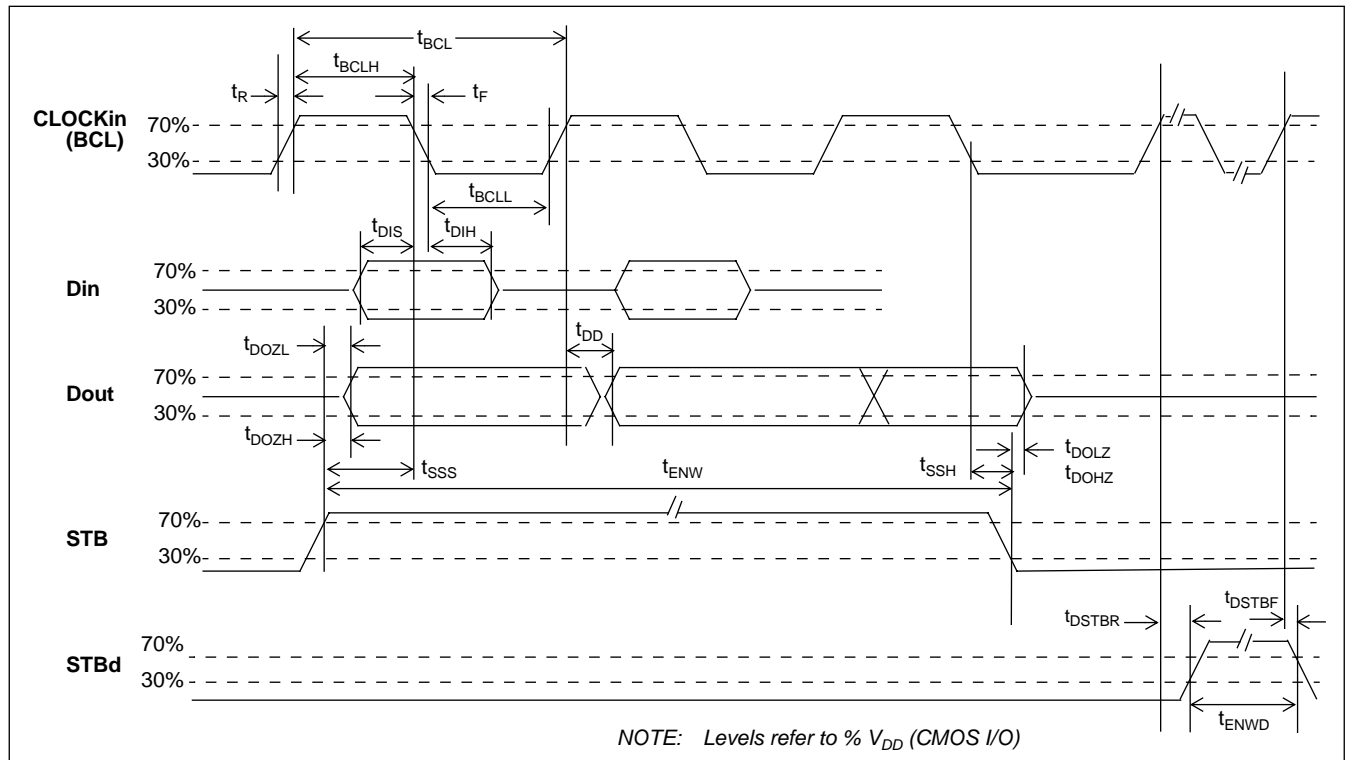

Figure 12 - SSI Synchronous Timing Diagram
**AC Electrical Characteristics† - SSI BUS Synchronous Timing (see Figure 12)**